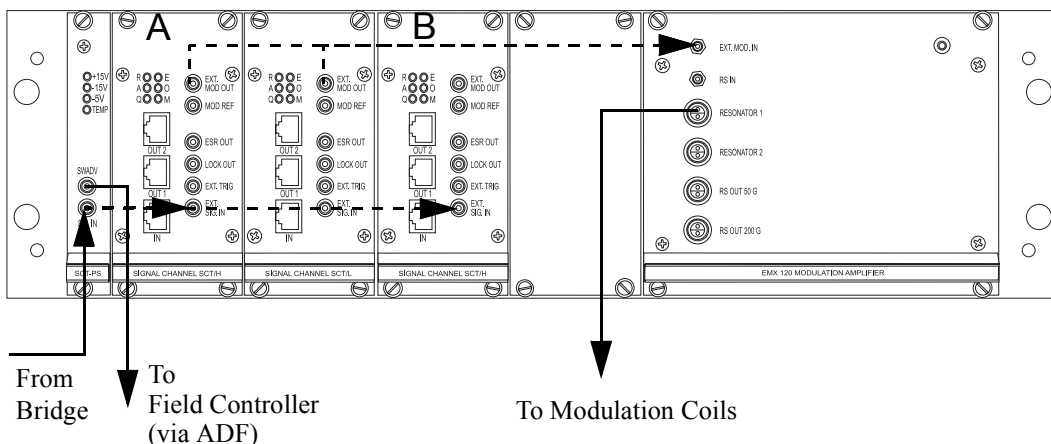

Figure 14-5 Configuration for quadrature detection.
1. **Install the second signal channel.** Turn off the spectrometer. Install a second SCT/H (high frequency) signal channel, B, next to the SCT/L (low frequency) signal channel. Connect a transputer cable from OUT2 of signal channel A to IN on signal channel B. (See Figure 14-5.) Turn on the console and connect the workstation to the spectrometer.